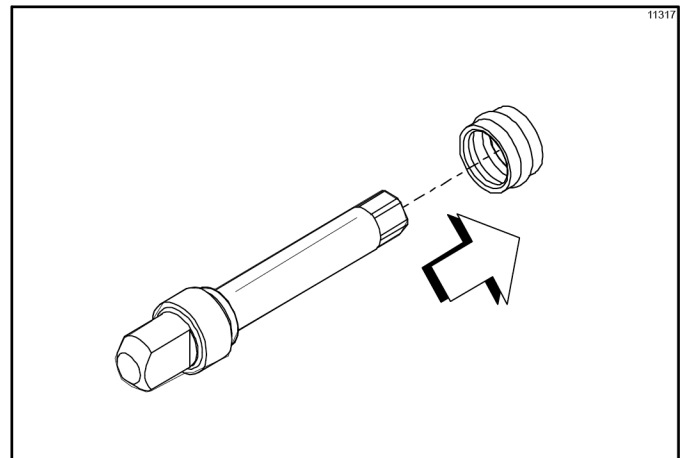

Figure 6-60
2. Remove the driveshaft seal from the driveshaft. (See Figure 6-60.)